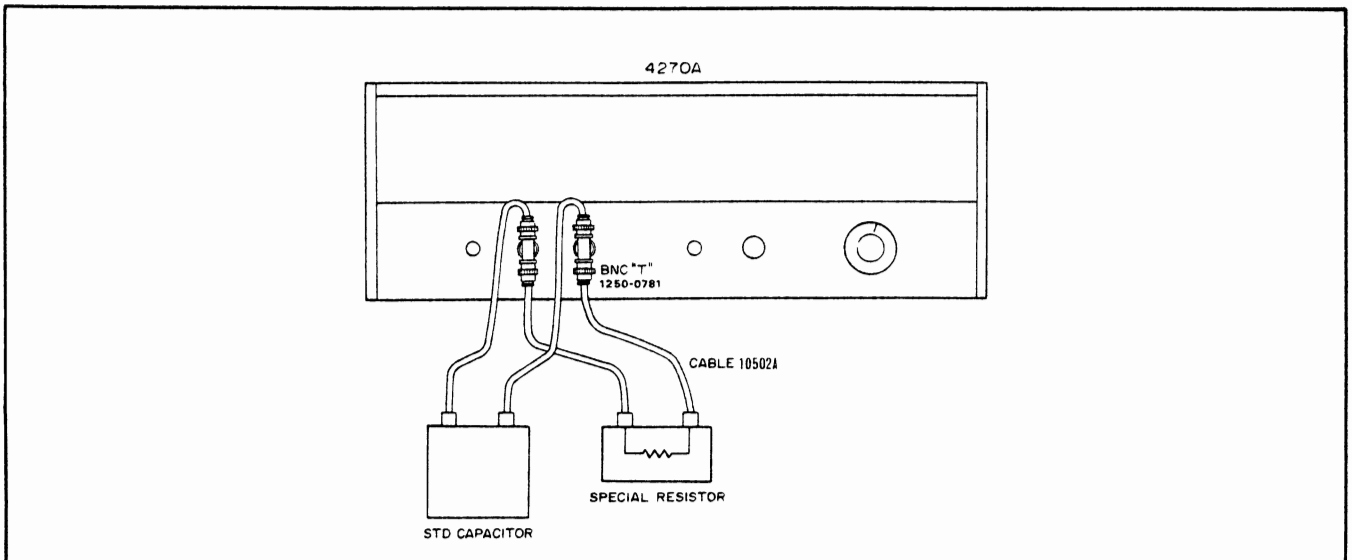

Figure 5-2. Capacitance and D/G Accuracy Check when $.1 \leq D < 1$.
- b. Figure 5-2 illustrates the recommended test set up.
- d. Connect the 100pF Standard Capacitor and the 2MΩ resistor to the UNKNOWN connectors as shown in Figure 5-2.